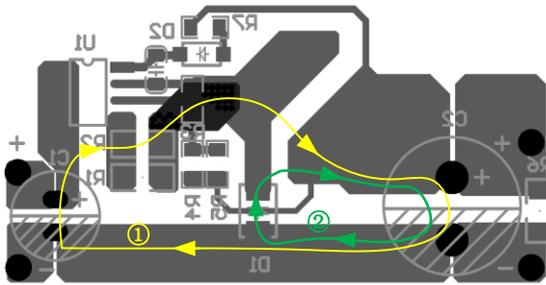

Fig.2
As shown in fig.2, minimize the power loop area of ① and ② as small as possible. Power loop ① is formed by input capacitor (C_1)–IC (U_1)– inductor (L_1)–output capacitor (C_2). Power loop ② is formed by inductor (L_1)–output capacitor (C_2)– freewheeling diode (D_1). Make sure these two loop area as small as possible.